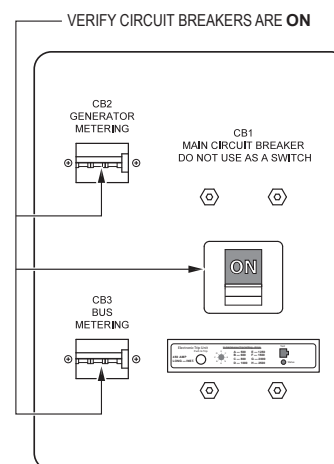

Figure 24. Circuit Breakers (ON)
3. Verify that all three circuit breakers (Figure 24) are in the **ON** position prior to starting the engine.